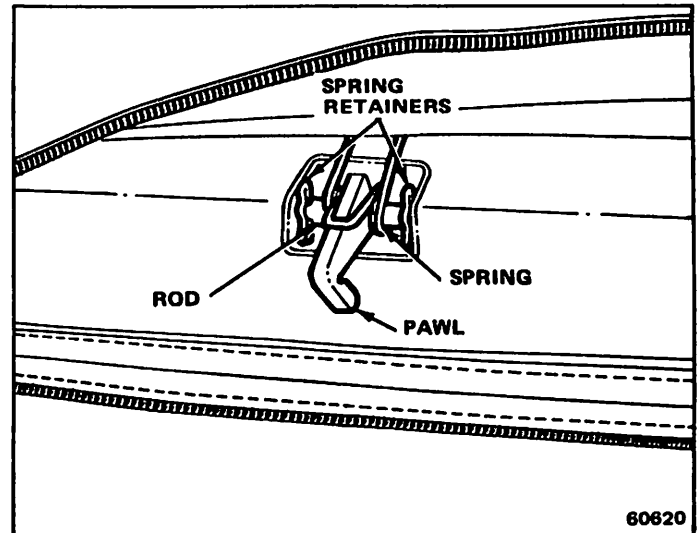

Fig. 3M-2 Tilt Lock Pawl Assembly
- (1) Remove forward tilting seat back.
- (2) Remove screw attaching release handle-to-latching rod using Torx Bit Tool J-25359-C and remove handle.
- (3) Remove screws attaching plastic bumpers using Torx Bit Tool J-25359-C and remove bumpers.
- (4) Unzip upholstery and pull back.
- (5) Remove spring retainers attaching latching rod (fig. 3M-2).
- (6) Remove rod, pawl, and spring from seat.